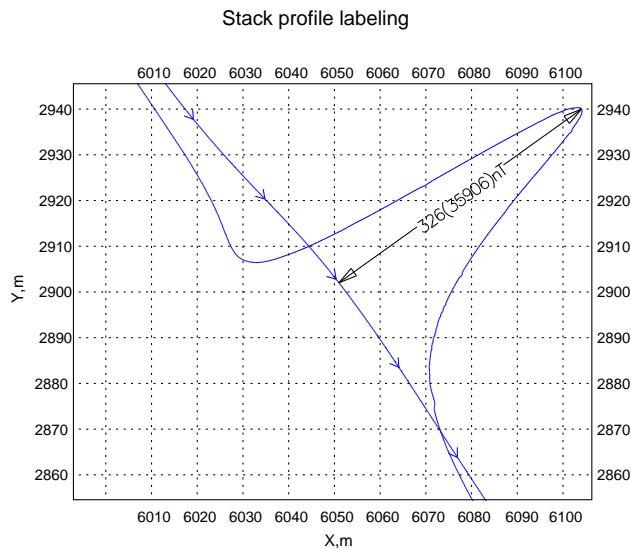

Figure 7: An Example of stack labeling. Both relative and absolute values are printed. (actual mag-pick output)
14. **Stack labels** After a stack plot map is plotted it might be difficult to find what the anomaly values were. To make it easy **magpick** can automatically draw dimension lines on minimum and maximum points. Press this button to call the stack labels dialog and set the parameters of this feature. See figure 7 for an example of stack labeling.